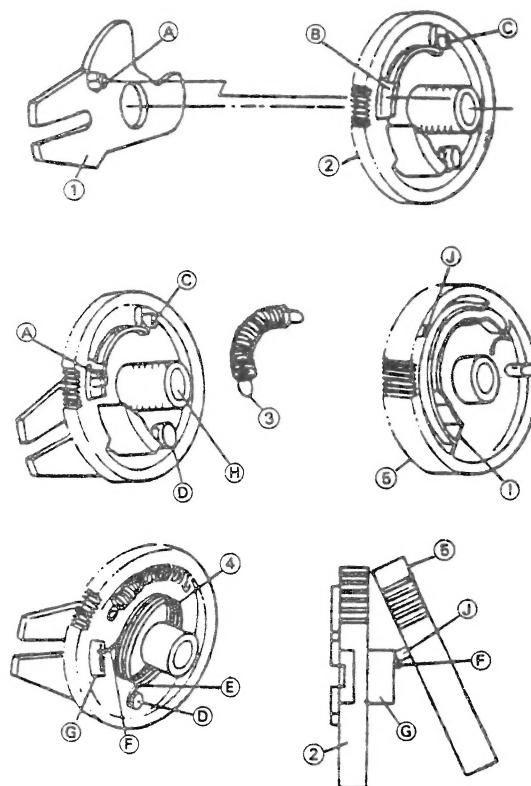

Figure 1-3.
2. Turn the phase gear ⑤ clockwise until it stops.
3. After setting up the worm wheel assembly, fit the alignment mark (C) of the worm wheel assembly to the alignment mark (B) of the phase gear. Then insert them into the frame shaft: this time, check that the tab (D) of the cassette slider assembly is engaged with the drive arm groove. The worm wheel is likely to fall off the frame shaft in this step: be sure to hold the worm wheel by hand.
4. Align the tab (E) of the timing lever with the worm wheel groove (G) and secure the worm wheel assembly with the screw ②.
5. Align the tab (F) of the timing lever with the groove (H) of the cassette mode switch ⑥, and secure the cassette relay PWB with the frame's tab (A): this time, check that the two tabs ① of the cassette mode switch are surely engaged with the cassette motor bracket groove (J).
• **Set up of worm wheel assembly (Fig. 1-3)**
1. Put the tab (A) of the drive (1) into the hole (B) of the drive gear (2).
2. Hook both ends of the drive spring (3) onto the tab (A) of the drive arm and tab (C) of the drive gear respectively.
3. hook one end (E) of the drive reciprocating spring (4) onto the tab (D) of the drive gear assembly and mount another end (F) of the drive reciprocating spring onto the tab (G) of the drive gear: this time, hold the end (F) of the drive reciprocating spring by hand.
4. Fit the tab worm wheel gear (5) onto the tag (G) of the drive gear.
5. Using a tapered screwdriver, hook the end (F) of the drive reciprocating spring onto the tab (J) of the worm wheel gear: check that both ends of the drive reciprocating spring have been engaged with the respective tabs of the drive gear assembly.
6. holding the drive gear by hand, turn the worm wheel gear by the other hand counterclockwise. Then tab (C) of the drive gear will be engaged with the hole (I) of the worm wheel gear (5).